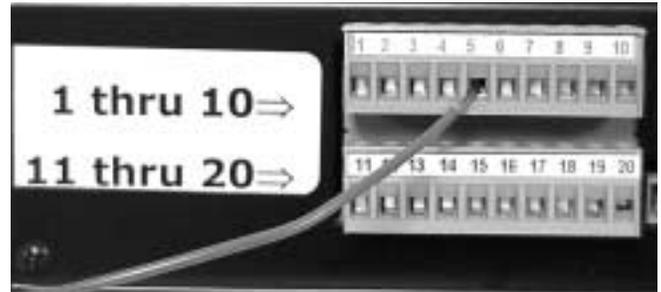

Figure 13. Extend/Retract Common
1. Install a wire between terminal 5 (extend/retract common) and the ground/common of a power source (5-30 volts). See Figure 13.